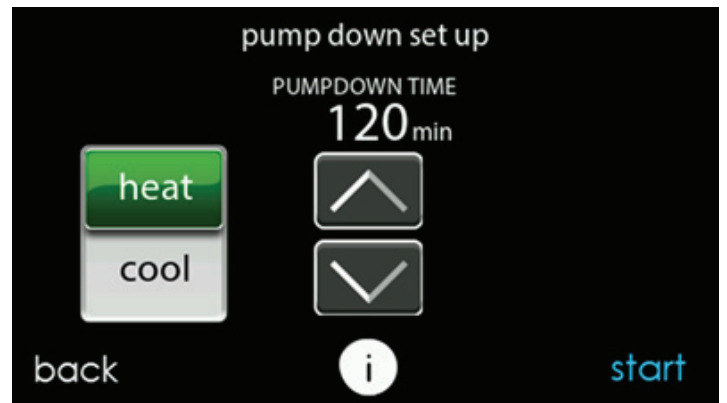

Fig. 22 – Pump Down Setup Screen A200040
3. Pump down in COOL mode allows refrigerant to be isolated in outdoor unit. Set desired time period. Default time period for the procedure is 120 minutes. See Fig. 22.